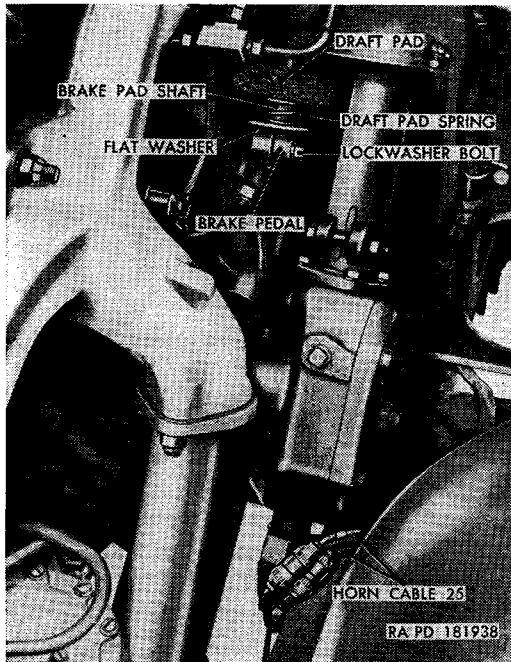
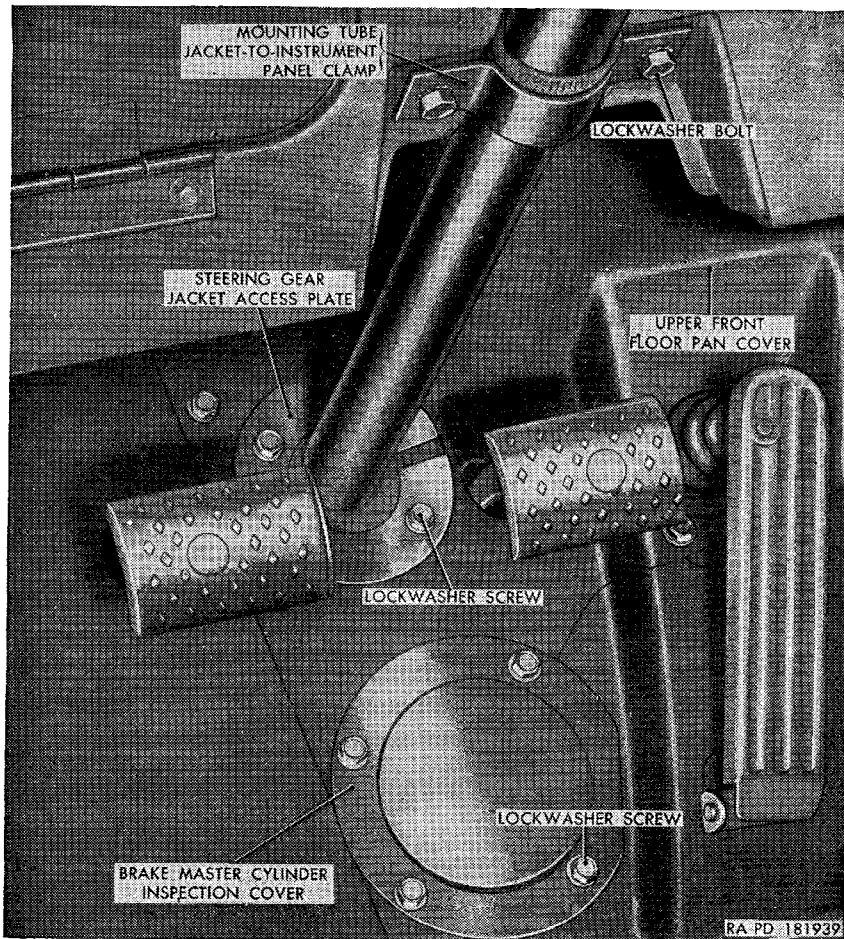
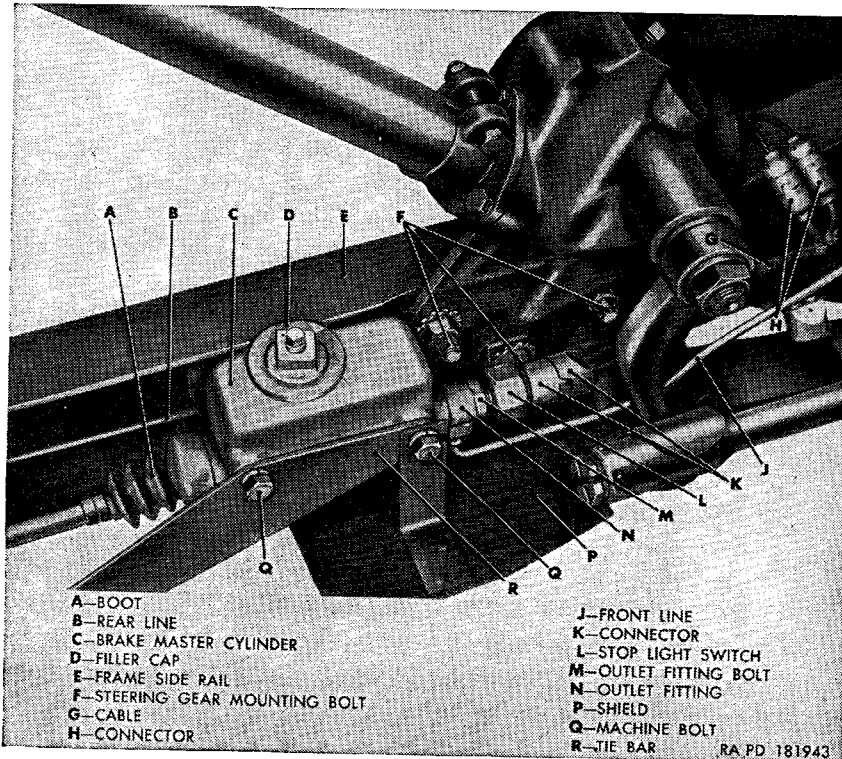

Figure 156. Disconnect points for steering gear removal—engine compartment.
Figure 157. Disconnect points for steering gear removal—driver's compartment.
Figure 161. Brake master cylinder installed—vehicle body removed.
- (1) Removal the steering wheel assembly (par. 229a).
- (2) Disconnect the steering drag link assembly from the Pitman arm (par. 227a(2)).
- (3) Disconnect the two horn cables 25 at the connectors (H, fig. 161).
- (4) Remove the brake master cylinder shield (par. 234b(1)).
- (5) Remove the lockwasher bolt from the brake pedal and pad assemblies (fig. 156) and detach the pad assembly from the pedal.
- (6) Slide the draft pad spring, flat washer, and draft pad (fig. 156) off the bottom of the draft pad assembly shaft, and pull the assembly out of the upper front floor pan cover.
- (8) Remove the four lockwasher screws securing the brake master cylinder inspection cover (fig. 157) to the upper front floor pan, and remove the cover from the pan.
- (9) Remove the two lockwasher screws securing the steering gear jacket access plate (fig. 157) to the body, and remove the plate.
- (10) Remove the 10 lockwasher screws securing the upper front floor pan cover to the body, and lift the cover from the vehicle.
- (11) Remove the three plain nuts, six internal-external-teeth lock washers, and three steering gear mounting bolts (F, fig. 161) securing the steering gear and Pitman arm assembly to the vehicle frame.
- (12) While supporting the steering gear with Pitman arm assembly, remove the two plain nuts and two lockwasher bolts from the mounting tube jacket-to-instrument panel clamp (fig. 157). Detach the clamp and gasket from the instrument panel.
- (13) Work the steering gear with pitman arm assembly out of the vehicle through the driver's compartment.
- (14) Remove the plain nut and lockwasher from the Pitman shaft. Scribe alinement marks on the Pitman arm and Pitman shaft. Using a wedge-type remover, separate the Pitman arm from the Pitman shaft.
- (2) Lower the steering gear with Pitman arm assembly into approximate position through the driver's compartment.
- (3) Aline the mounting tube jacket-to-instrument panel clamp (fig. 157) and gasket with the holes in the panel. Attach
- (4) Align the steering gear housing holes with vehicle frame holes. Secure the steering gear to the frame with three $\frac{7}{16} \times 3$ steering gear mounting bolts (F, fig. 161), six $\frac{7}{16}$ -inch internal-external-teeth lockwashers, and three $\frac{7}{16}$ -inch plain nuts. Tighten the nuts in the mounting tube jacket-to-instrument panel clamp.
- (5) Connect the two horn cables 25 (fig. 156) at the connectors at the bottom of the steering gear on the left side of the engine compartment.
- (6) Install the brake master cylinder shield (par. 234c(8)).
- (7) Make certain that the underside of the upper front floor pan cover (fig. 157) edges are coated with permagum seal 7348567. Position the cover in the driver's compartment with the cover holes aligned with the body holes. Secure the cover to the body with ten $\frac{1}{4} \times \frac{5}{8}$ lockwasher screws.
- (8) Make certain that the underside of the steering gear jacket access plate edges are coated with permagum seal 7348567. Position the plate with the plate holes aligned with the body holes. Secure with two $\frac{1}{4} \times \frac{5}{8}$ lockwasher screws.
- (9) Make certain that the underside of the brake master cylinder inspection cover edges are coated with permagum seal 7348567. Position the inspection cover on the upper front floor pan cover and secure with four $\frac{1}{4} \times \frac{5}{8}$ lockwasher screws.
- (10) From the driver's compartment, insert the brake pad assembly shaft through the upper front floor pan cover from the underside of the cover, slip the draft pad (fig. 156), flat washer, and draft pad spring on the shaft. Insert the shaft into the clamp on end of brake pedal and secure with a $\frac{5}{16} \times 1\frac{1}{4}$ lockwasher bolt.
Note. The key letters noted in parentheses are in figure 161, except where otherwise indicated.
- (1) Remove the four screws with internal-teeth-lockwashers securing the brake master cylinder inspection cover (fig. 157) to the upper floor pan plate. Remove the cover.
- (2) Remove the filler cap (D) and cap gasket. Fill master cylinder with brake hydraulic fluid to within **one-half inch** of top (par. 69). Install filler cap and gasket.
- (3) Make certain that the underside edge of the cover is completely coated with permagun seal 7348567 and position cover on the upper floor pan plate with the cover holes aligned with the plate (fig. 157) holes.
- (4) Secure the cover to the plate with four $\frac{1}{4}$ x $\frac{5}{8}$ screws with internal-teeth lockwashers.
(b) *Installation.* Position the line assembly (Q) between the master cylinder outlet fitting (N, fig. 161) and the flexible line assembly (front tee-to-master cylinder front line) (Y) and install the nuts at each end of the line. Push the line into the clip (R). Install the master cylinder shield (par. 234c(8)). Bleed brakes (par. 237).
(b) *Installation.* Position the line assembly (J) between the outlet fitting (N, fig. 161) and the flexible line assembly (rear tee-to-master cylinder rear line) (H) and install the nuts at each end of the line. Push the line into the three clips (L, M, and N). Install the master cylinder shield assembly (par. 234c(8)). Bleed brakes (par. 237).